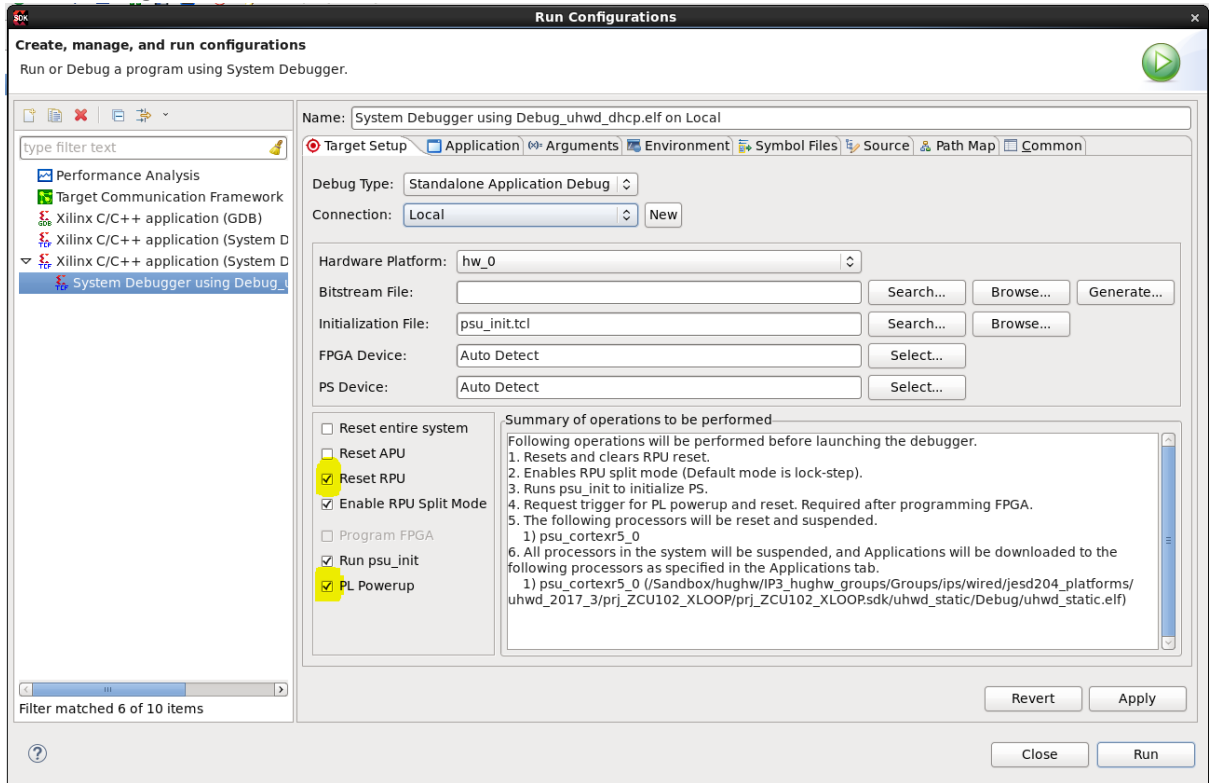

Figure 9 Run Configurations
- When the system debugger pane opens ensure to select “Reset RPU” and “PL Powerup” as shown in Figure 9